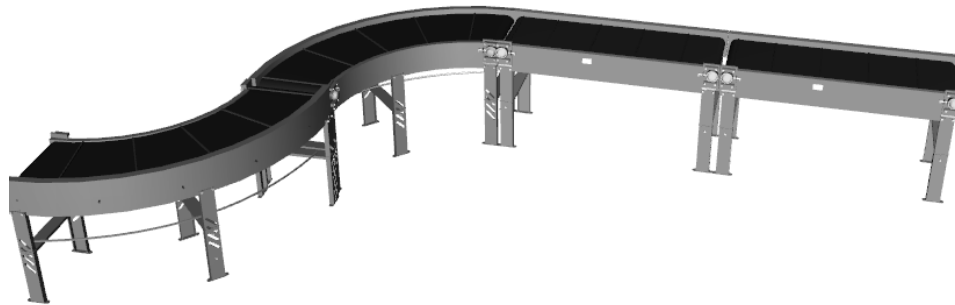

Figure L6.7 - Conveyor Line
3. Duplicate each of the conveyors once and align the conveyors so that they look like the production line in Figure L6.7.